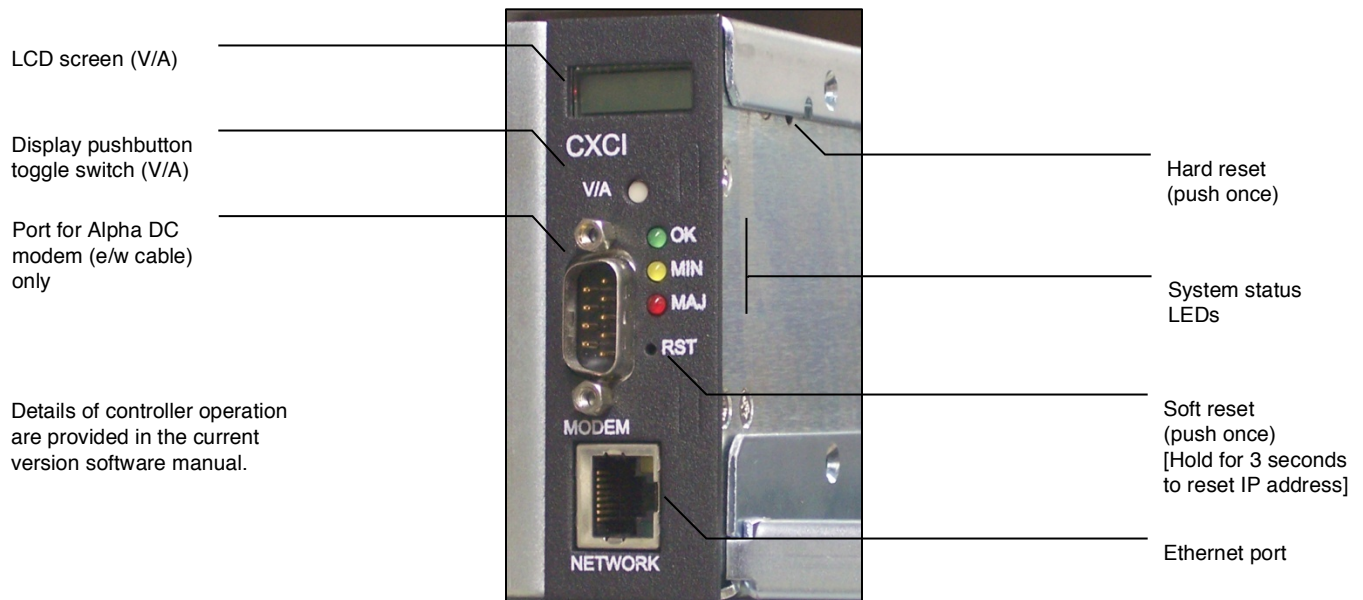
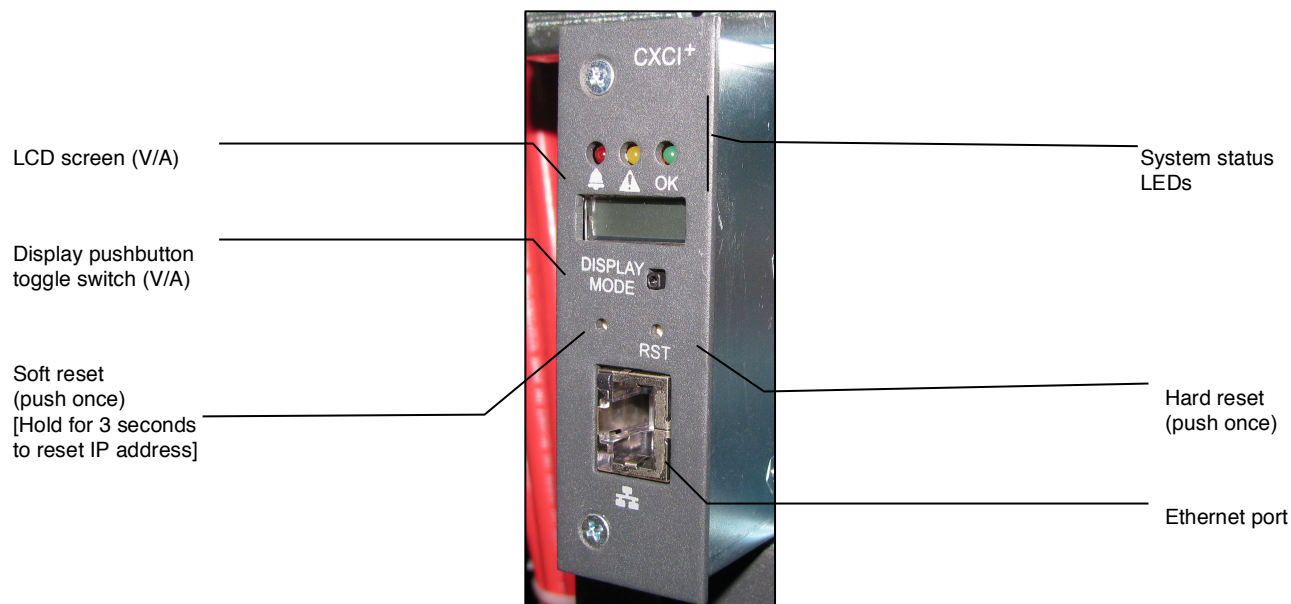

Figure 2–Cordex CXCI model system controller front panel
Figure 3–Cordex CXCI+ model system controller front panel
The CXCI (Figure 2) and the CXCI+ (Figure 3) controllers have a 4-digit display, for monitoring system voltage (V) and current (A). A pushbutton toggle switch allows the user to alternate the display reading.
The Modem port (front panel DB-9 connector, Figure 2) is designed for connection to Alpha Technologies' Cordex DC Modem #018-585-20.